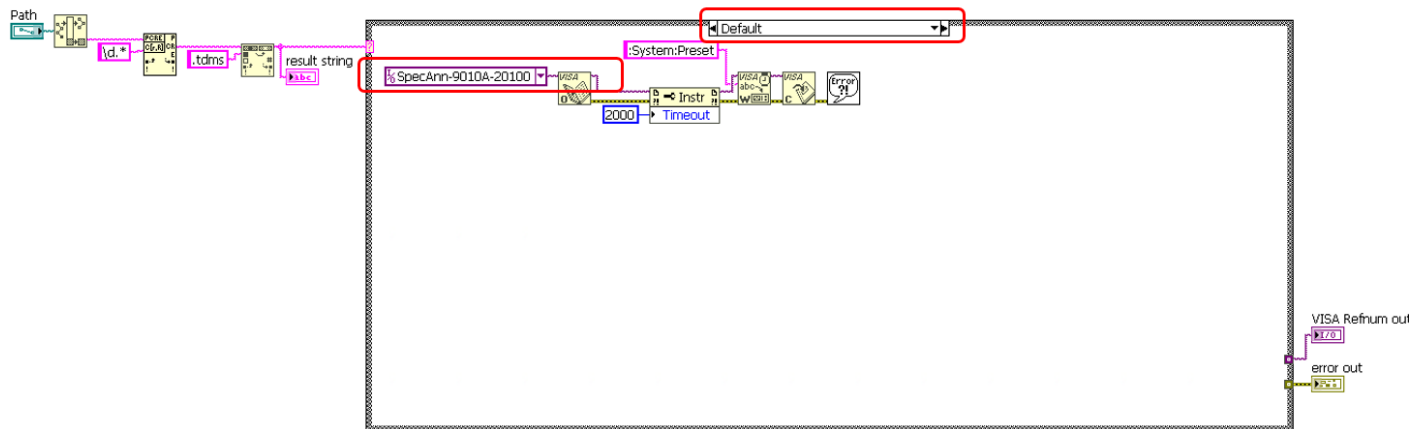

Figure 11: Spectrum analyzer settings
- Enter the VISA address for your instrument. See Figure 11.